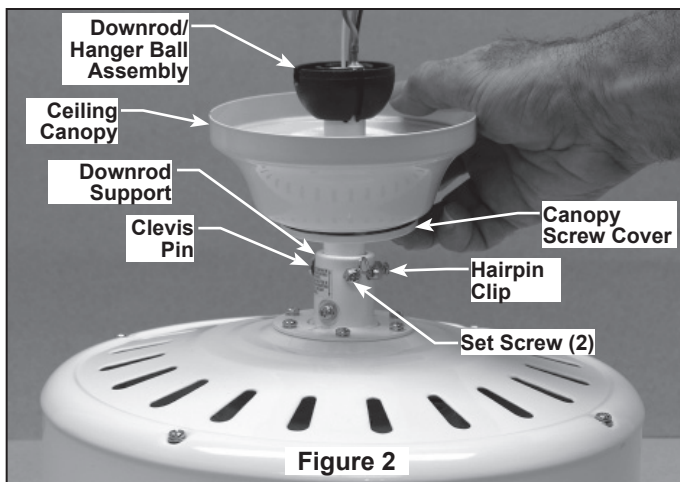

Figure 2
4. Loosen the two setscrews in the Downrod Support. Install Downrod into Coupler. Align the Clevis Pin holes in the Downrod with the holes in the Downrod Support. (Figure 2)
5. Install the Clevis Pin, Hairpin Clip and tighten Set Screws. (Figure 2) The Clevis Pin and Hairpin Clip must be properly installed to prevent the Set Screws from working loose.
6. Route wires through Canopy Screw Cover and Canopy. Position Canopy on fan shown with open side facing up. (Figure 2)
7. Reinstall the Hanger Ball (Figure 2) on the Down rod as follows. Route the three 80" wires through the Hanger Ball. Position the Pin through the two holes in the Down rod and align the Hanger Ball so the Pin is captured in the groove in the top of the Hanger Ball. Pull the Hanger Ball up tight against the pin. **Securely tighten the setscrew in the Hanger Ball. A loose setscrew could create fan wobble.**
1. Securely attach the hanger bracket to the outlet box using the outlet box screws and washers supplied with the outlet box (Figure 2).
NOTE: Outlet box screws pass through slotted holes of the hanger bracket (Figure 2).